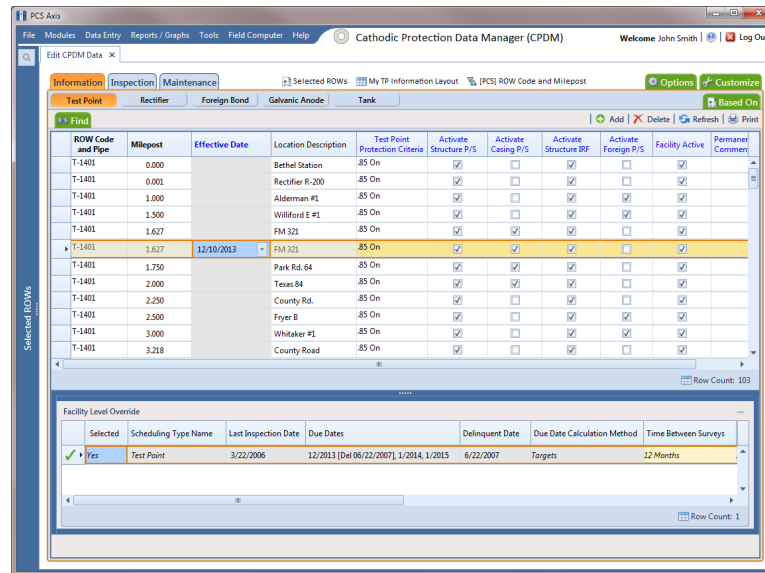

Figure 7-31. Test Point Information Grid
PCS Axis adds a new record in the *Information* grid for the selected facility with today's date showing in the *Effective Date* field. The *Facility Active* check box is also enabled by default in order for the facility to be included in facility survey schedules. The original record becomes the history record (Figure 7-31).
- Enter the out-of-service date in the *Effective Date* field (Figure 7-31).